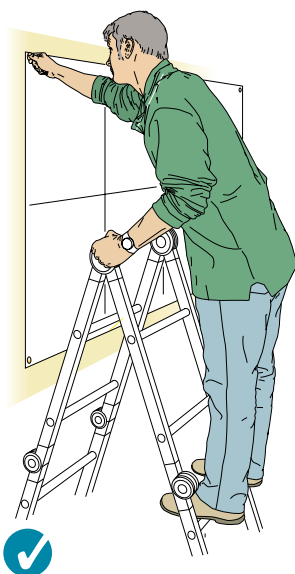

Figure 11 Correct - two clear rungs. Don't work any higher up this type of stepladder
- don't use the top two steps of a stepladder, unless a suitable handrail is available on the stepladder (See Figure 11);